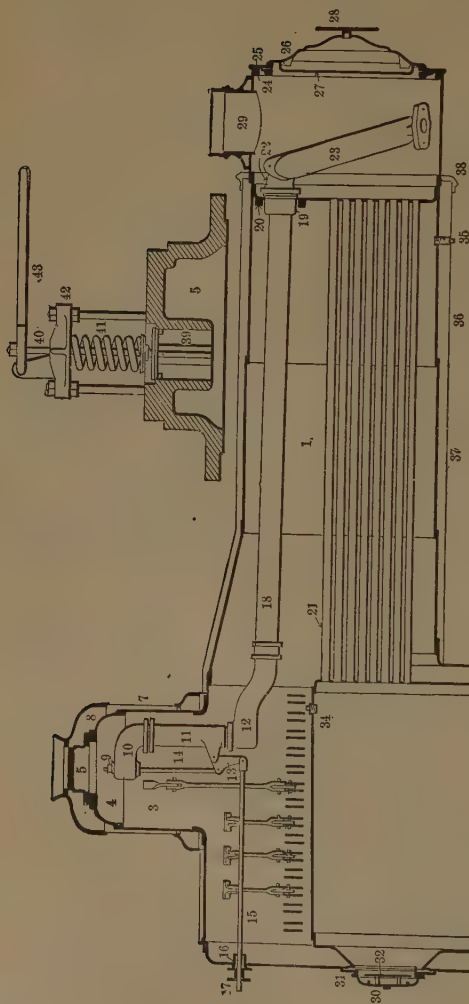

Fig. 30. Lengthwise Section, Locomotive Boiler.
A. By either stay-rods or gusset stays (sheet stays) carrying to the cylindrical part some of the strain that is put on the flat part. The tubes also act as lengthwise stays. (See Fig. 30.)
diameter being connected by a tapering portion. The steam-dome is added for the same purpose. (See Fig. 30, page 52.)